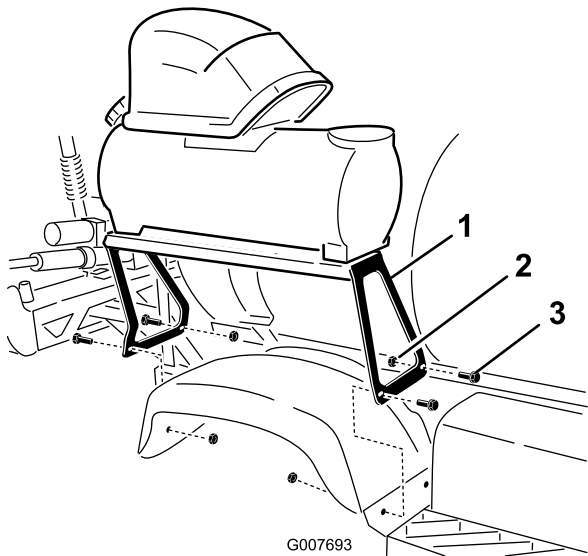

Figure 6
- 3. Install the bracket to the holes in the right rear fender using 4 carriage bolts (5/16 x 1 inch) and 4 locknuts (5/16 inch) as shown in Figure 6.